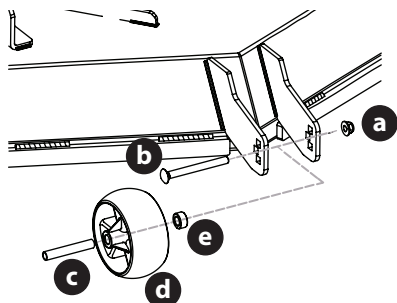

Figure 16
- Remove the lock nut (a) securing one of the front gauge wheels to the deck. Remove the shoulder screw (b), tube spacer (c), and shoulder spacer (e) to remove the wheel (d) (Figure 16).